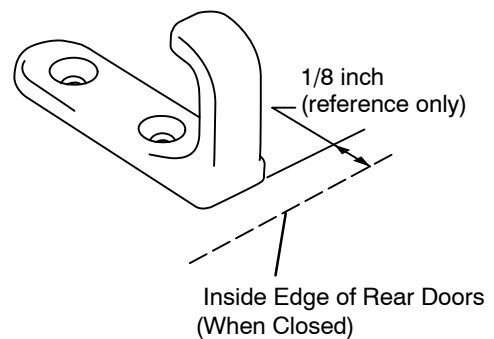
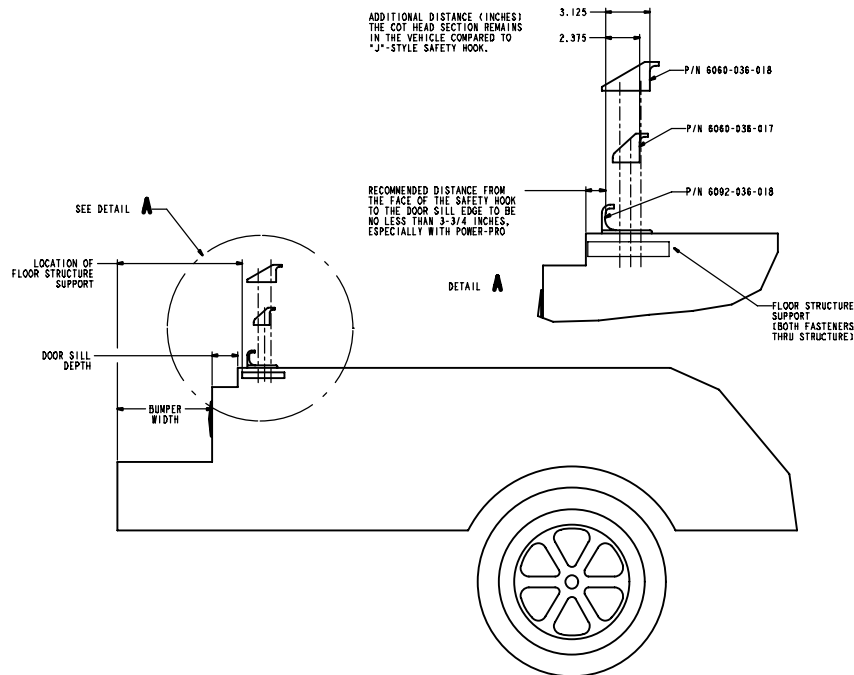

Figure 5a – Safety Hook Placement
Figure 5b Safety Hook Placement
3. Center the safety hook on the cot safety bar, with the hook facing the front of the vehicle (Figure 5a). For best results, the face of the safety hook which engages the safety bar should be at least 3–3/4" from the leading edge of the door sill (Figure 5b)